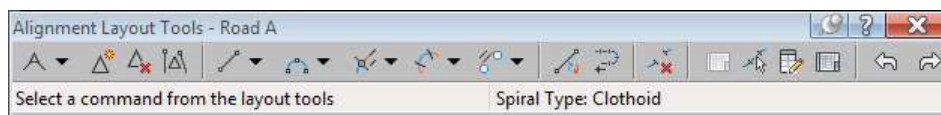

Figure 5-60 The Alignment Layout Tools - Road A toolbar
7. Ensure that the **Use design check set** check box is selected and then choose the **OK** button; the **Create Alignment - Layout** dialog box is closed and the **Alignment Layout Tools - Road A** toolbar is displayed, as shown in Figure 5-60.